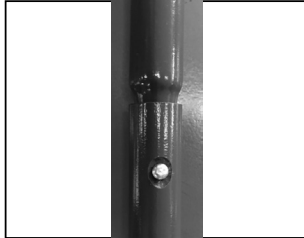

fig 2.
2. Ensure the holes in the lower handle [4] aligns with the retaining clip in the upper handle [5], push until you can hear a CLICK (fig.2).